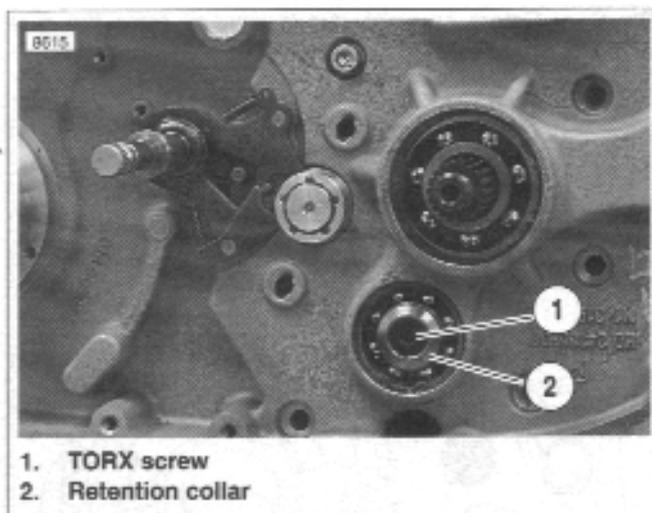

Figure 6-87. Countershaft Retainer
3. See Figure 6-87. Position retention collar (2) next to end of countershaft with beveled side facing outward.
- b. Insert screw (1) through retention collar (2) and thread into end of shaft.
- c. Place transmission in gear and tighten TORX screw (1) to 13-17 ft-lbs (18-23 Nm).